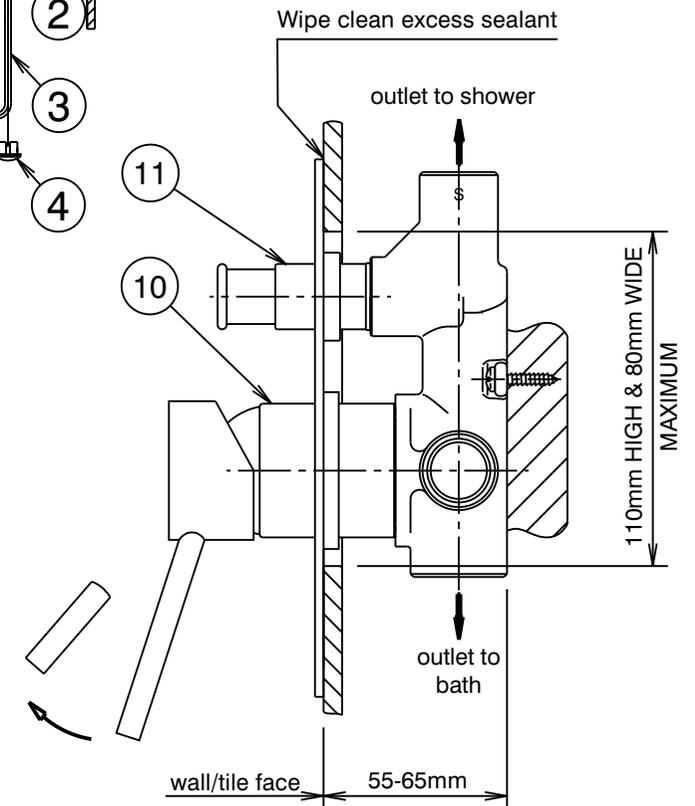

Fig. 1
### Installation (Fig. 1 & 2)
- \* Mixer body (10) must be installed square to wall/tile face, to ensure cover plate (5) sits flush.
- 2) Apply a suitable clear sealant to the back edge of the cover plate (5), leaving an unsealed section at the bottom for drainage. Carefully slide the cover plate (5) onto the mixer body (10) and the diverter sleeve (11), ensuring that the 'O' rings (6) remain in their grooves. Push the cover plate firmly against the wall/tile face, making sure that the top edge is horizontal to align with the tile joints. Wipe clean any excess sealant from the chrome surfaces & the wall/tile face (See Fig. 1).
- 3) Fit handle (1) taking care that it is pushed fully onto cartridge stem, then tighten grub screw (2) using the 2.5mm allen key (3). Fit plug (4), taking care not to damage the decorative finish.